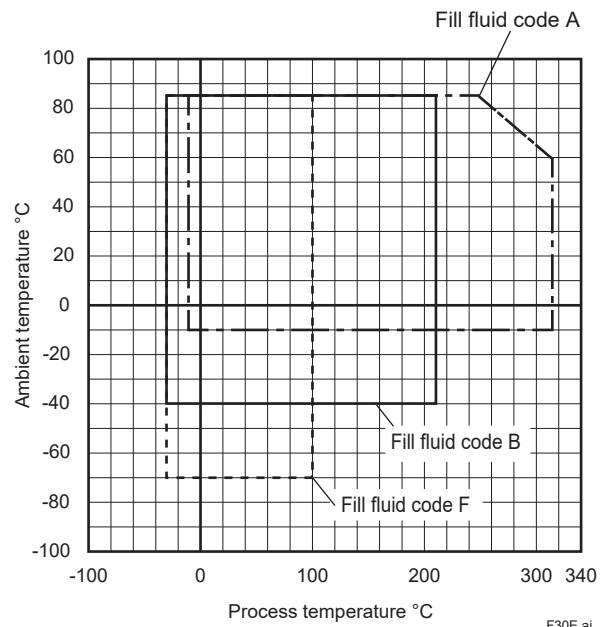

Figure 1g. Ambient Temperature and Process Temperature (Fill fluid: silicone oil for general and low temperature use)
*7: See figure 1g and 1h 'Ambient Temperature and Process Temperature.'
*5: See figure 1g and 1h 'Ambient Temperature and Process Temperature.'